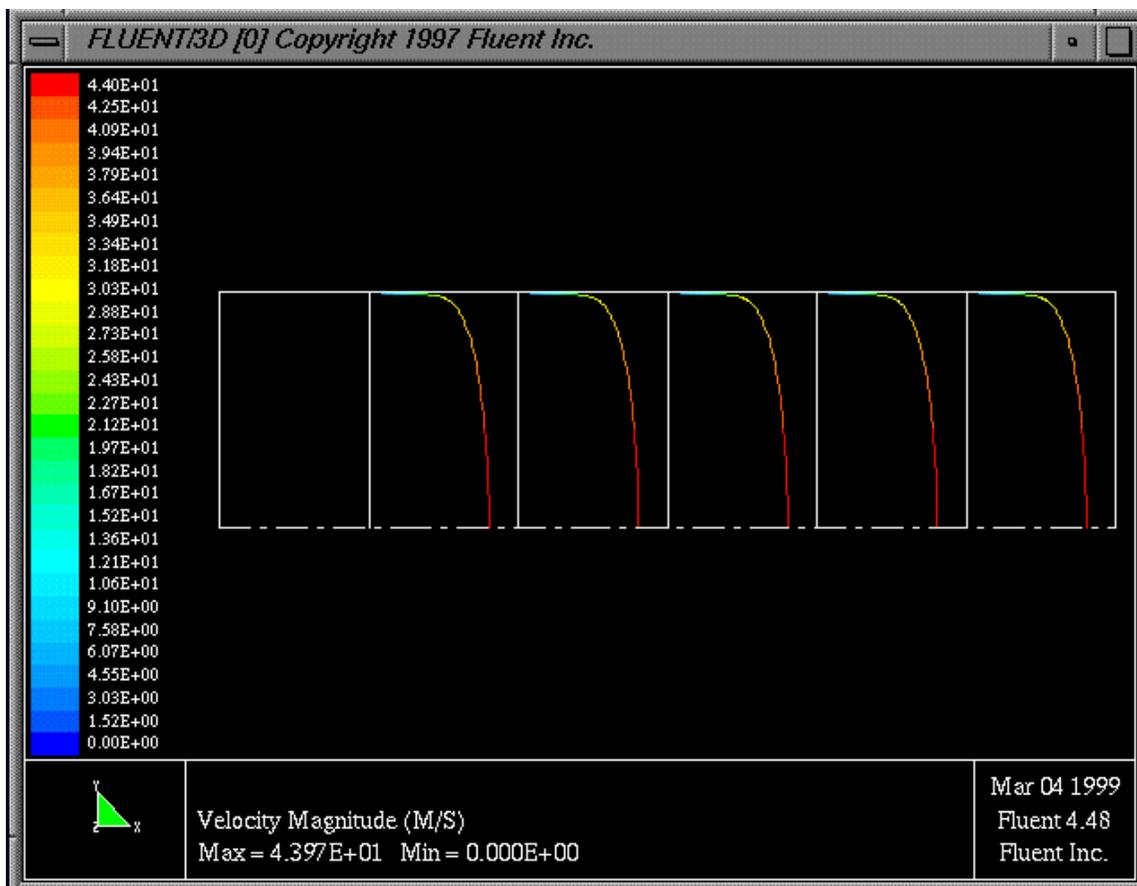

Figure 4: Velocity profile for fully developed turbulent flow in pipes
- Save plot of velocity profile (figure 4)